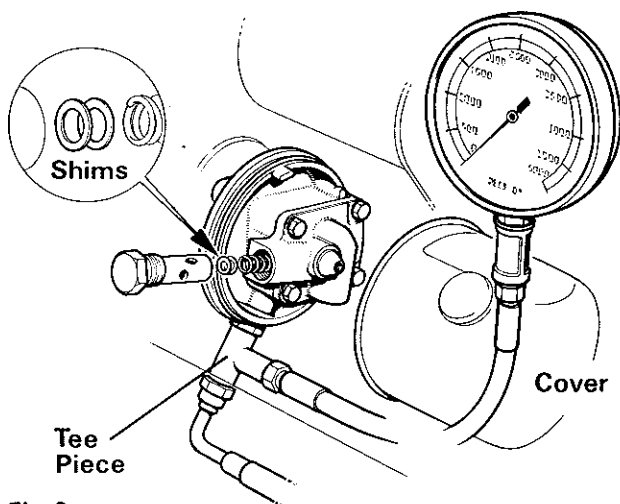

Fig. 8
54. Tee piece. Fit. (fig. 8) Remove the delivery hose from the steering pump unit. (Refer also to Section 3 F1 Steering). Fit the small tee piece between the pump and the hose. Use temporary end caps to reduce oil spillage.
64. Pressure. Adjust. Shims are fitted between the spring and the body (fig. 8). Add shims to increase the pressure. Remove shims to reduce the pressure. The following tables gives approximate adjustments to pressures: